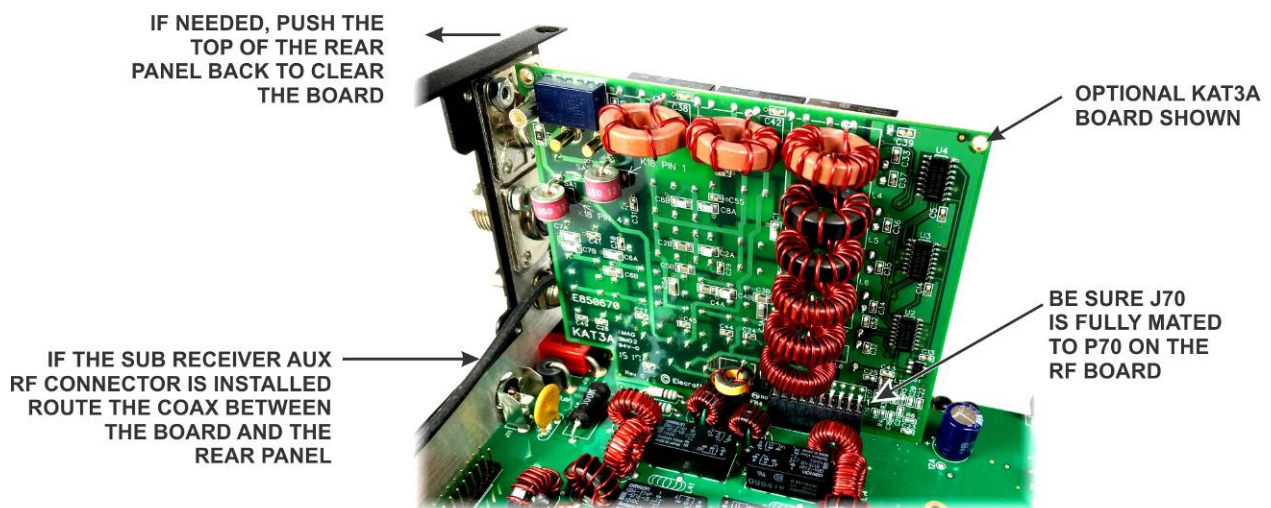
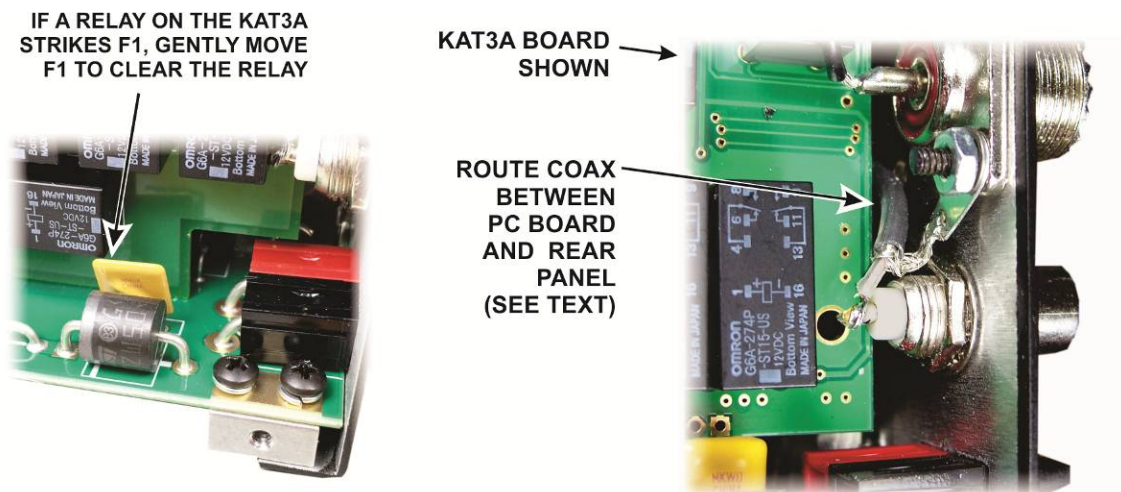

Figure 67. Installing the KANT3A or KAT3A Board.
Figure 68. Adjusting F1 and Routing AUX Coax.
□ Insert J70 on the KANT3A or the KAT3A board into P70 near the red and black APP power connectors at the right rear corner of the RF board. The KANT3A board is shown in Figure 67. The KANT3A board fits exactly the same way *with the toroidal inductors toward the center of the RF board*. When installing a KAT3A antenna tuner, a relay on the KAT3A may strike resettable fuse F1 on the RF board. If so, gently bend the fuse to clear as shown in Figure 68. If the sub receiver AUX antenna connector is installed, route the coax between the board and the rear panel as shown.
Locate voltage regulators U12 and U13. They are mounted on the RF board and have tabs screwed to the right side panel (see Figure 68 on page 50).